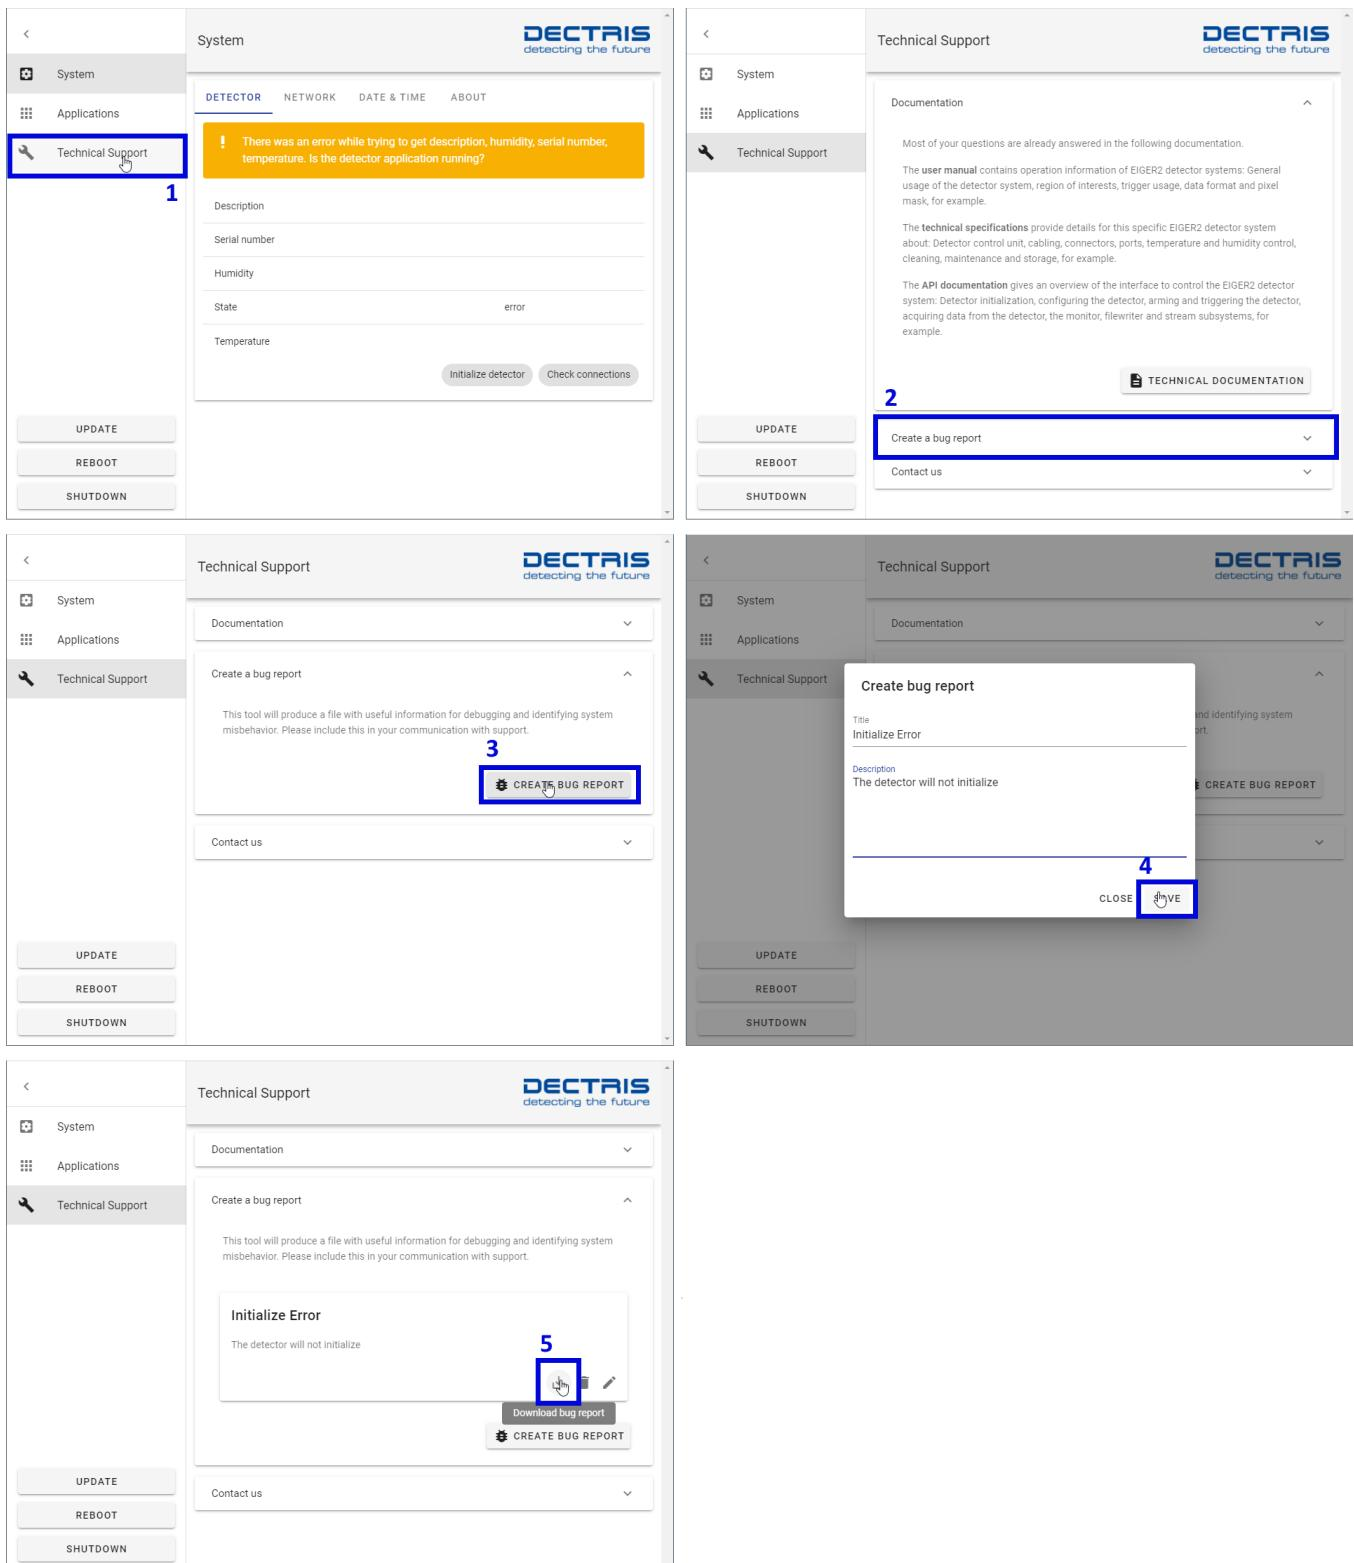

Figure 8.1: Process of creating a bug report tarball
- Navigate to technical support (figure 8.1 step 1)
- Go to the create bug report menu and press CREATE BUG REPORT (figure 8.1 step 2,3)
- Enter title and description and press SAVE (figure 8.1 step 4)
- Press on the download symbol of the newly created report (figure 8.1 step 5)